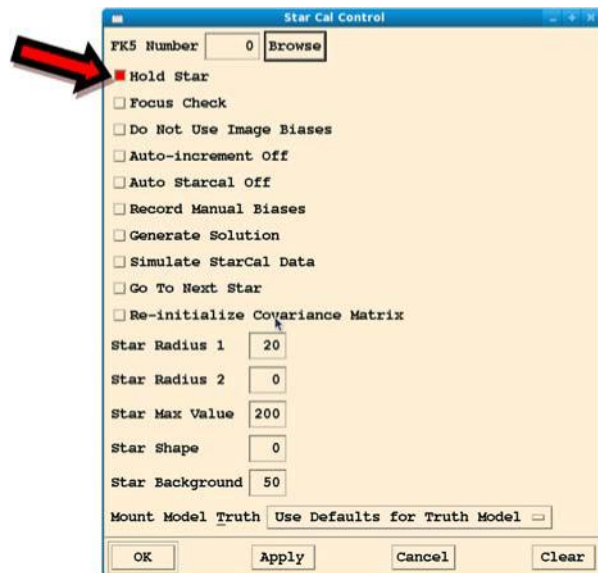

Figure 5-6: Star Cal control with Hold Star selected
2. **Configure the Star Cal Control window** – Go to **Control => Star Cal** control menu and select **Hold Star** (Figure 5-6). **DO NOT** select **Apply** yet.